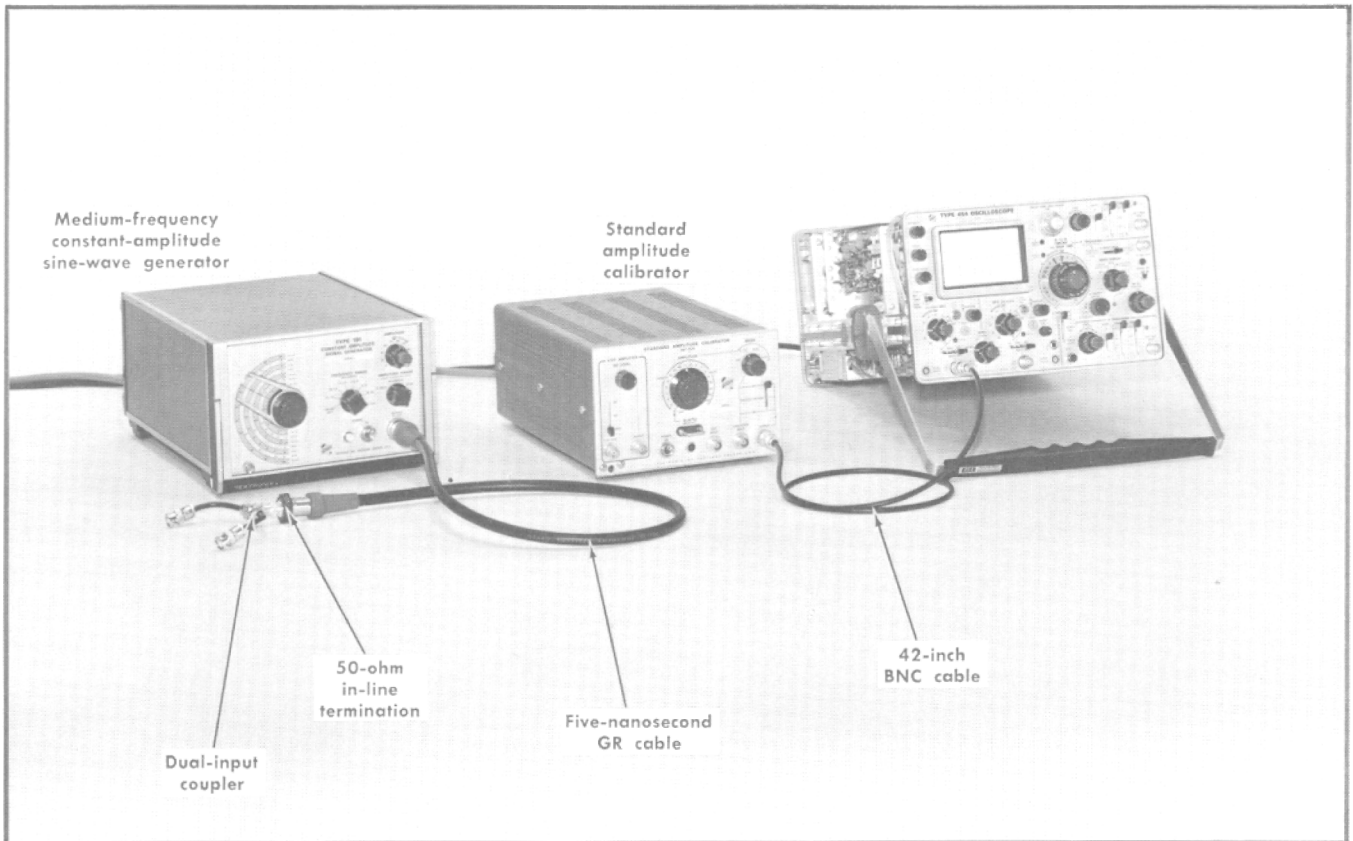

Fig. 6-57. Initial test equipment setup for steps 72 through 76.
72. Adjust X Gain ❶
- a. Test equipment setup is shown in Fig. 6-57.